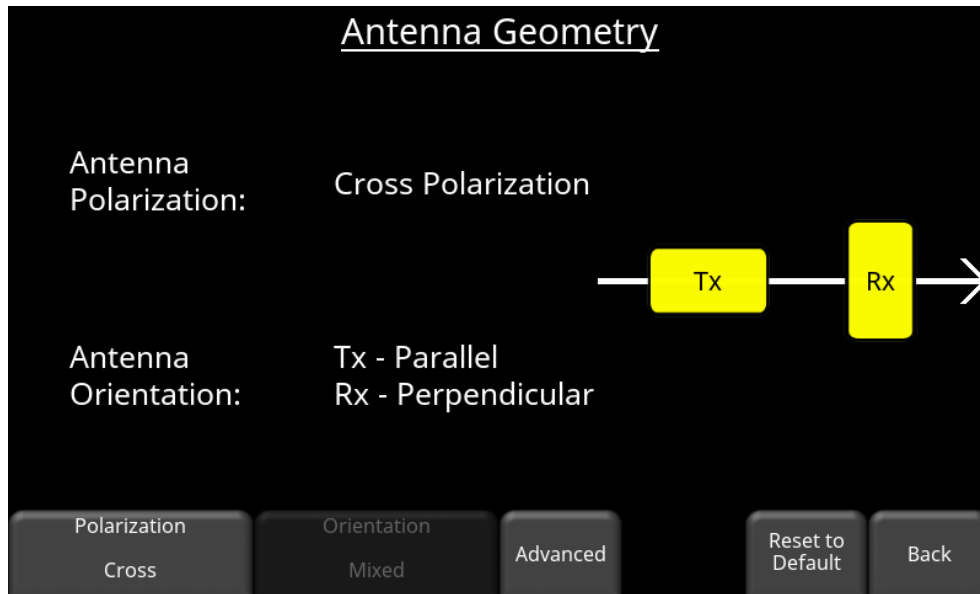

Figure 6-27: Antenna Polarization is Cross polarization (Tx – Parallel, Rx – Perpendicular)
- **Cross-polarization** orients one of the antennas (transmitter or receiver) 90 degrees with respect to the other (Figure 6-27).